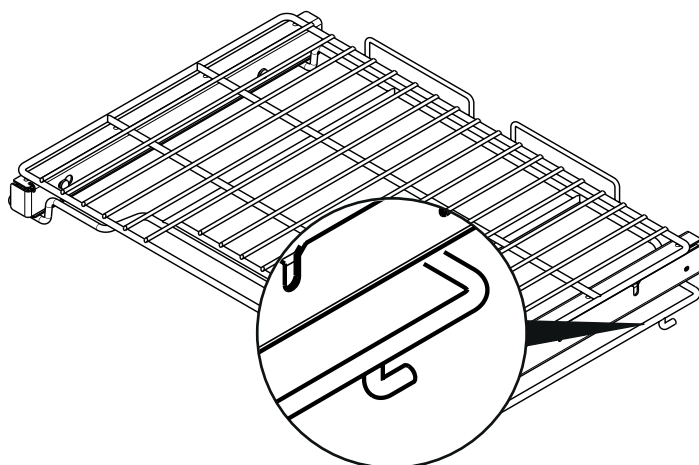

**Figure 14: Ladder rack supports - bottom prongs**
3. Once the upper prongs are in place, hold the oven rack support flush with the oven side and insert the bottom prongs into the bottom holes (Figure 14).
4. Slide the bottom prongs down into the lower holes. Some force may be required to set the rack into place (Figure 14).